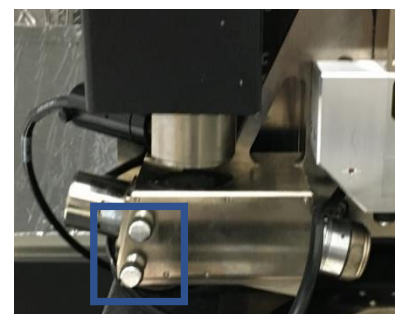

**Figure 5:** Scanner plug and laser check
7) Connect the **cable** to electronics box (**Figure 5 red circle**). Once,
it is connected, the laser indicator on the scanner should turn red (**Figure 5 blue arrow**).